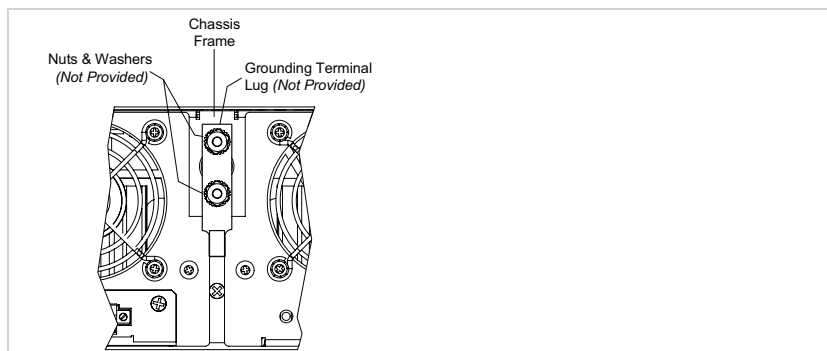

Figure 8: Chassis Grounding Hardware
3. In necessary, remove the chassis grounding assembly. See Figure 8.